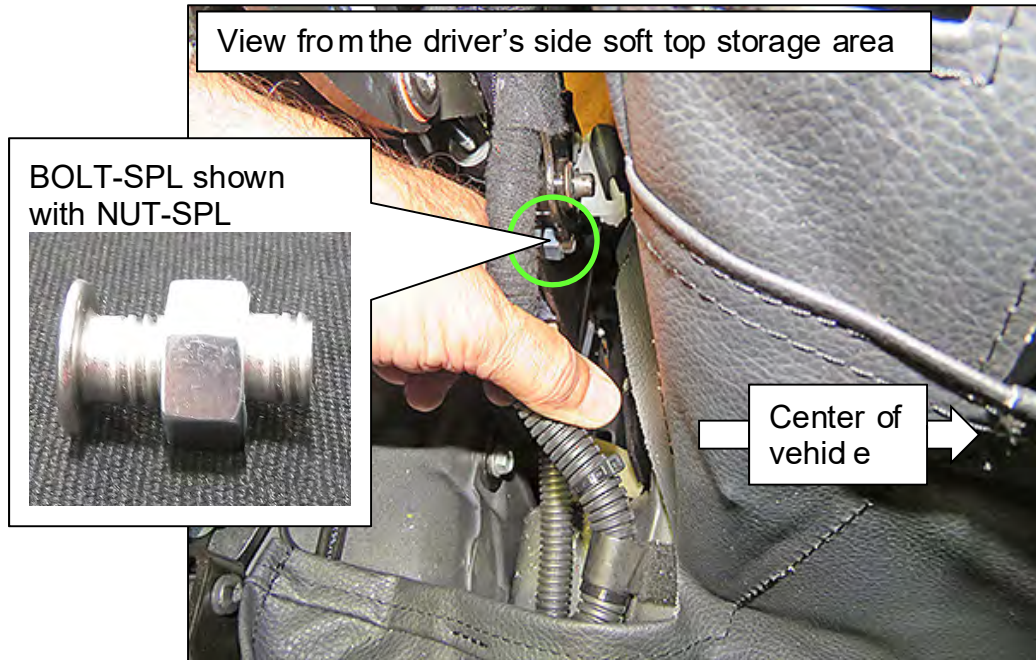
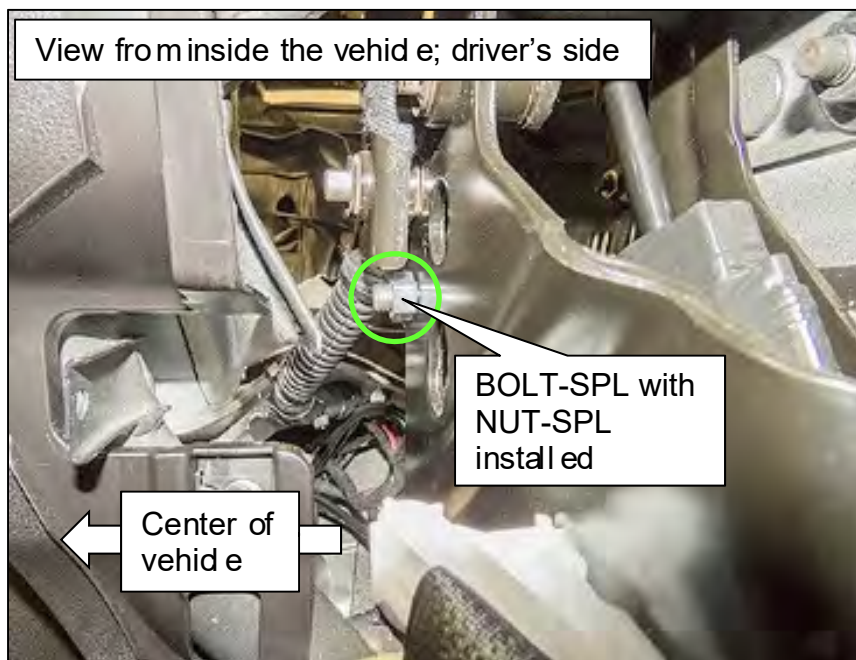

Figure 54
Figure 55
- Insert bolt (BOLT-SPL) so that the threads face the middle of the vehicle (see Figure 54 and Figure 55).
61. Thread one (1) nut (NUT-SPL) onto BOLT-SPL.